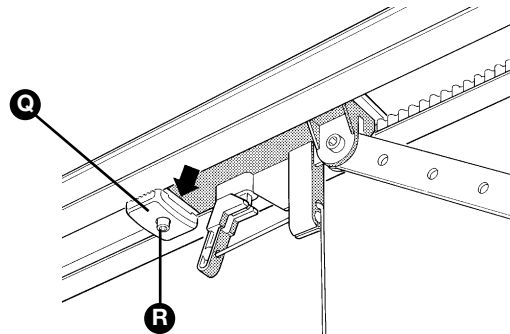

Figure 34
**10** Open the door manually to the desired open position, then place the rear mechanical stop [Q] near the carriage (Figure 34), and secure it tightening the screw firmly [R].